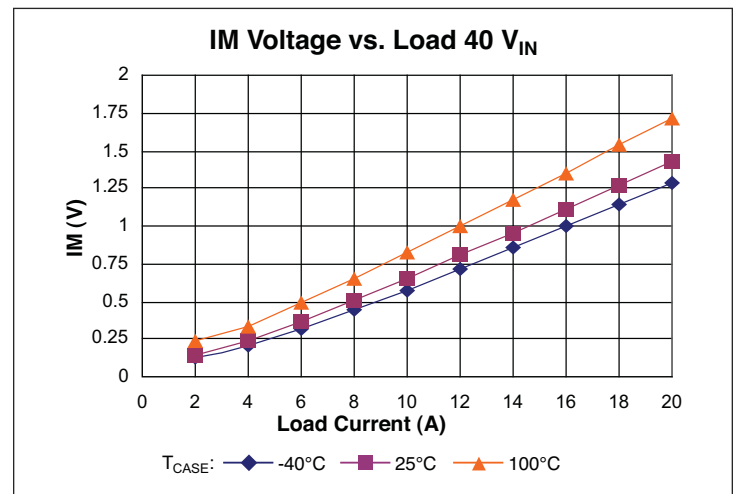

Figure 8 – IM voltage vs. load
**Current Monitor (IM)** pin provides a voltage proportional to the output current of the VTM. The nominal voltage will vary between 0.11 V and 1.47 V over the output current range of the VTM (See Figures 8–10). The accuracy of the IM pin will be within 25% under all line and temperature conditions between 50% and 100% load.